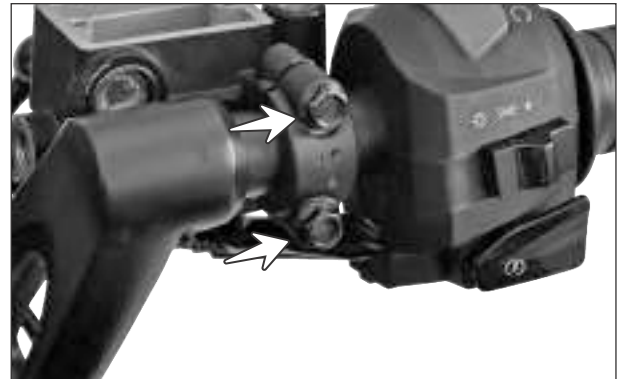

Fig. 6.38
- Take out the master cylinder by unscrewing the mounting bolts (2 nos.) of holder master cylinder. (Fig. 6.38)